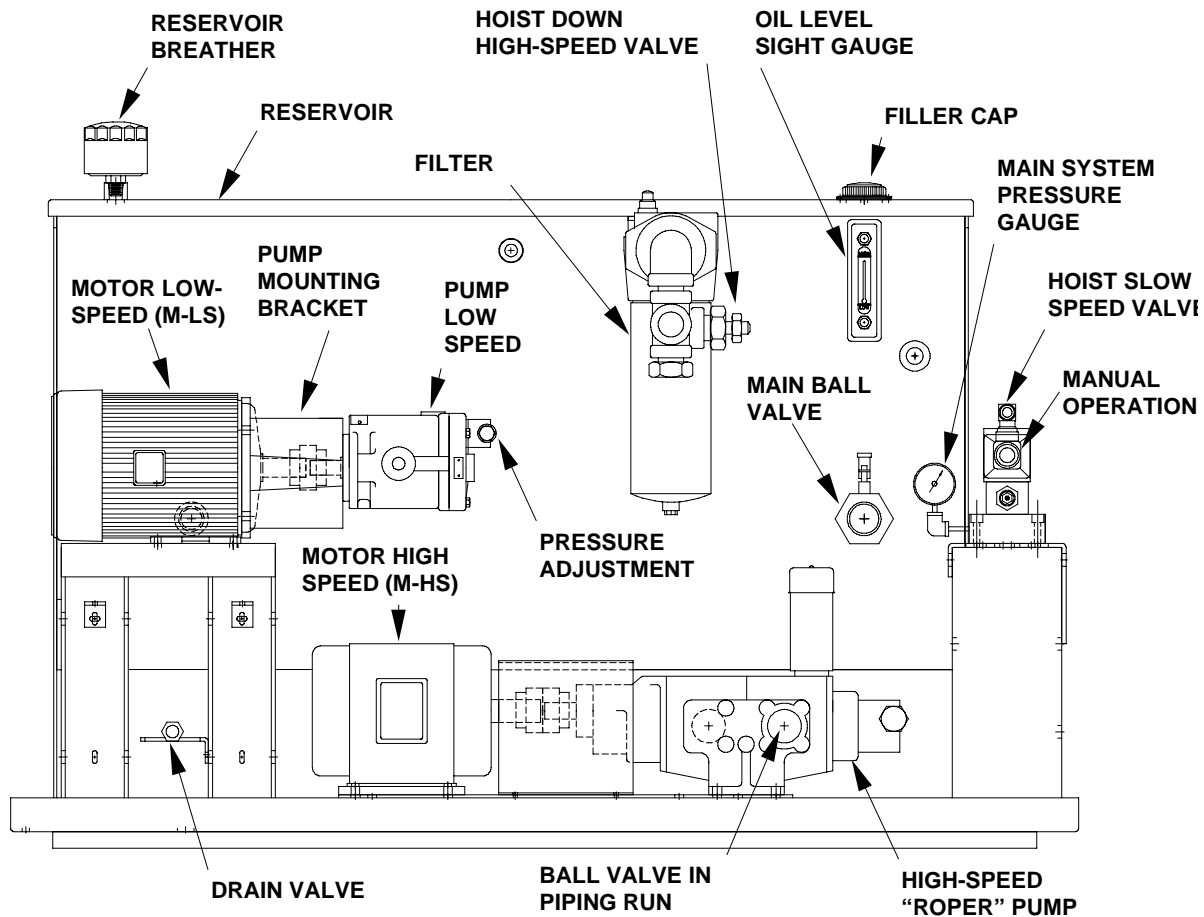

Figure 4-13: Hydraulic Deck Components
3. Install the pump mounting bracket on the pump motor as shown in Figure 4-13.